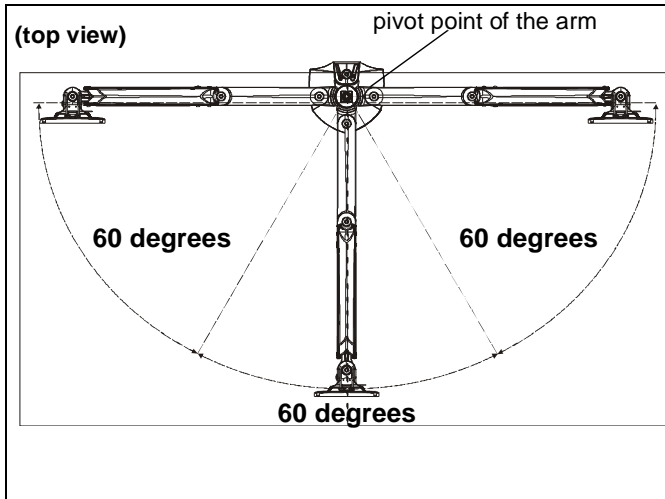

Figure 5
1. Adjust arm angles as desired within a 60 degree range. (See Figure 5)